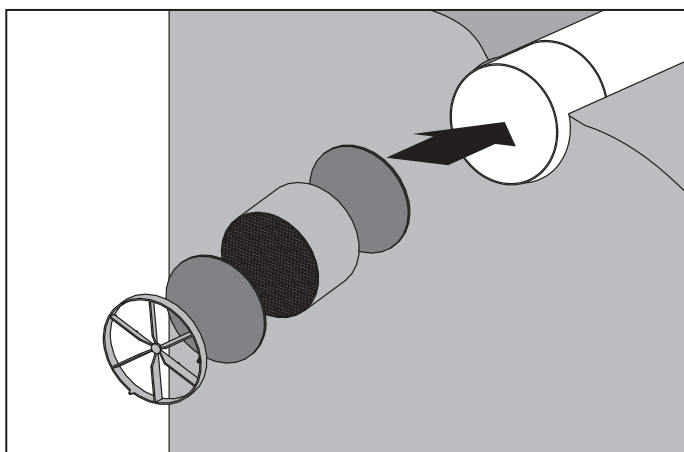

Fig. 23. Removal of the unit components
- Remove the air flow rectifier. Pull the cord to remove the regenerator and the filters from the air duct. Do not let the regenerator fall down, fig. 23.